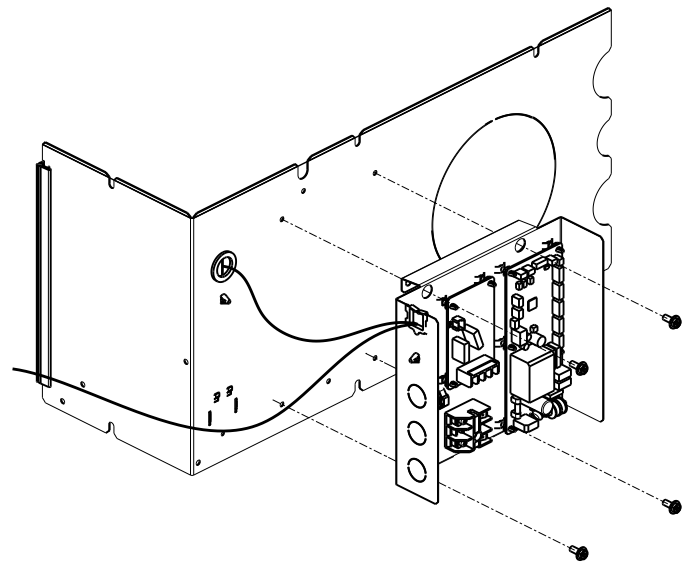

FIGURE M.1
- 3.1 Install the Control Box (Item 7) on to the outside surface of the Left Panel (Item 4) using (x4) M5 screws (Item 9). (Refer to Figure M.1)